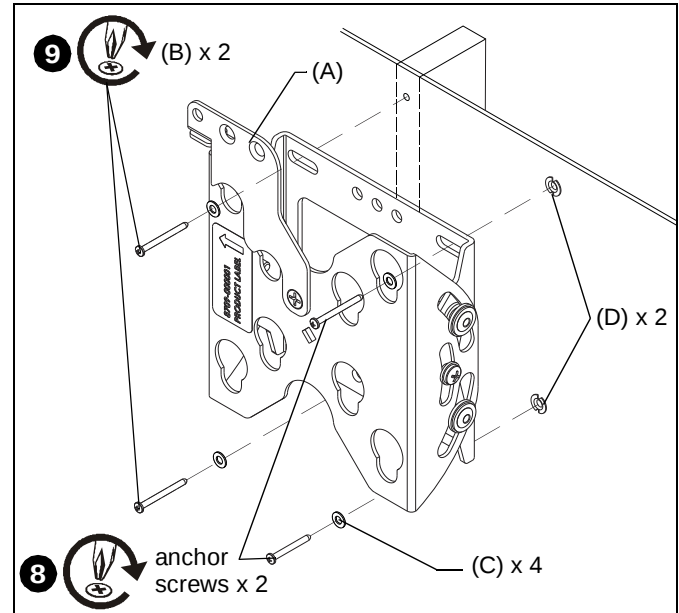

Figure 5
8. Insert anchor screws through two #10 washers (C), FTR1U/ FTR100 assembly (A) and install into collapsed anchors (D). (See Figure 5)
9. Install two #10 x 2 1/2" Phillips tapping screws (B) through two #10 washers (C), FTR1U/FTR100 assembly (A) and into wood stud. (See Figure 5)